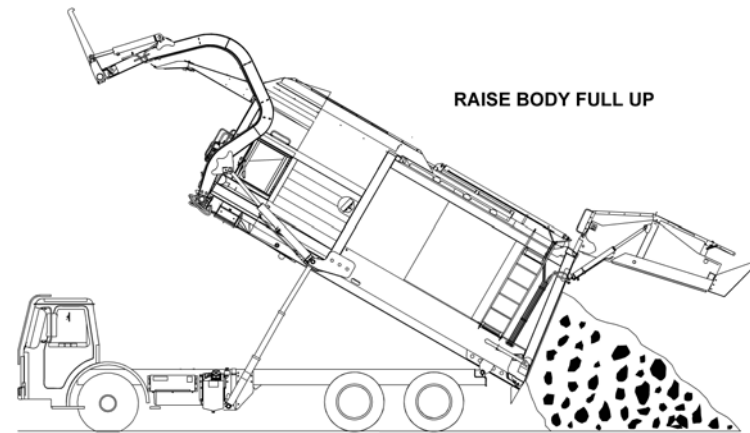

Figure 54. Raising the Body (Standard Unit)
2. When the body is completely raised, RELEASE the switch. See Figure 54.